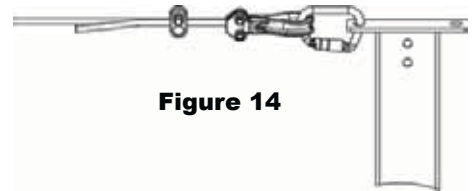

Figure 14
H. Combination Clamp and Thimble to End Stanchion using Carabiner *(Single-Span Systems only – see Figure 14)*